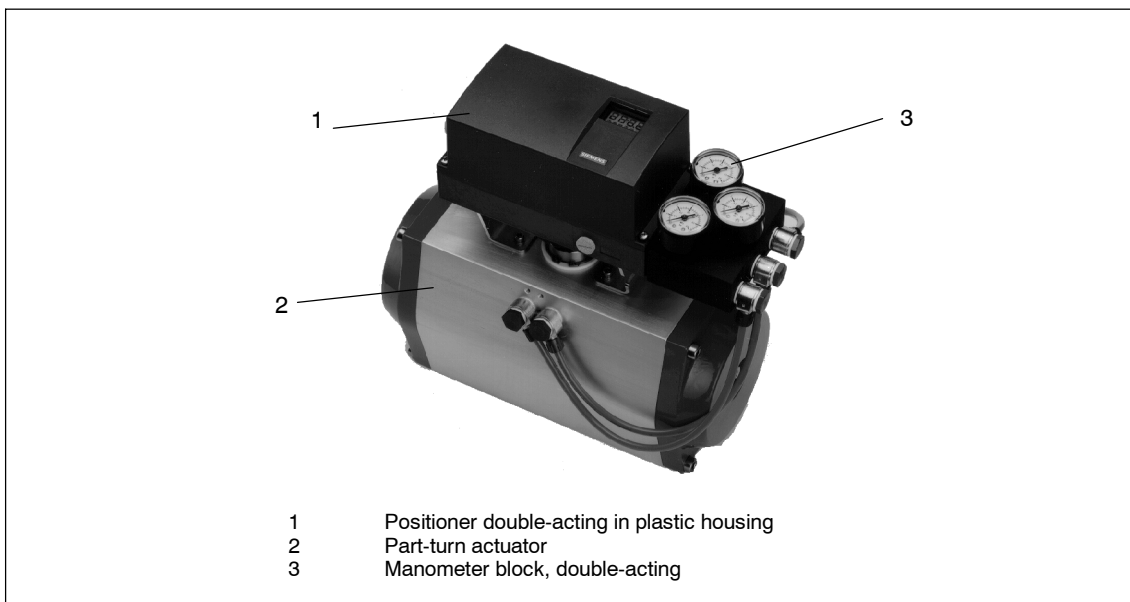

Figure 1-2 Positioner mounted on **part-turn actuator** (double-acting)
- with part-turn actuator VDI/VDE 3845 (figure 1-2, page 13)